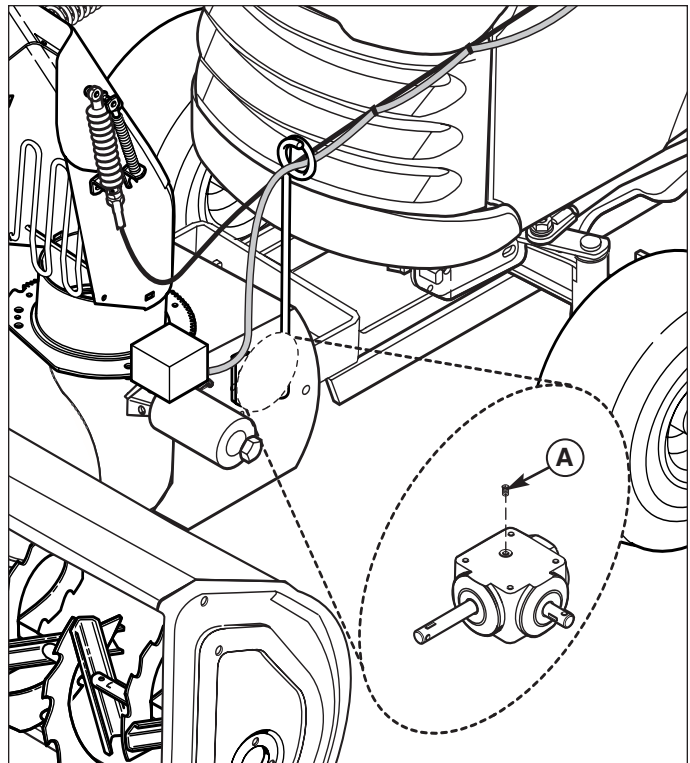

Figure 4. Impeller Gear Box Oil
1. Remove the oil fill plug (A, Figure 4) from the top of the gear box.